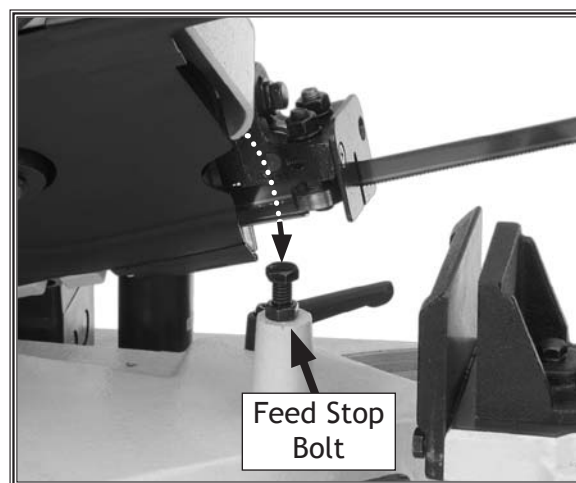

Figure 10. Feed stop bolt.
2. Adjust the feed stop bolt and jam nut with a 14mm wrench (**Figure 10**), so the bandsaw blade teeth are just below the table surface when the cut is complete.